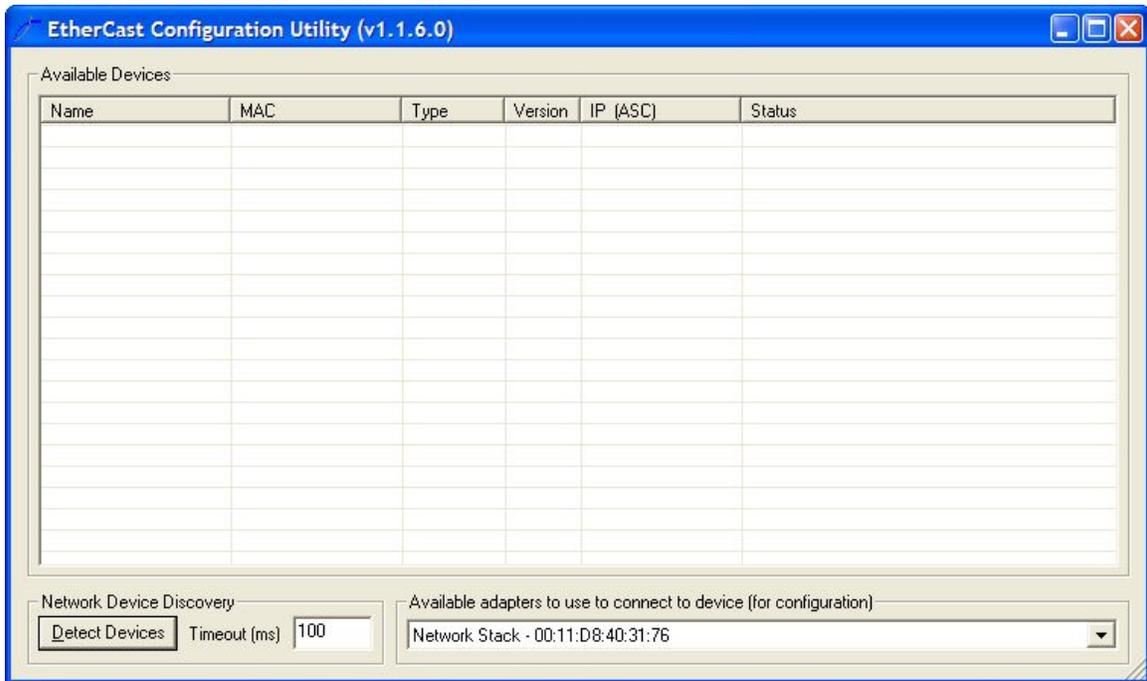

Figure 1: Main Dialog Controls Panel with No Engines or Default Values
- 2) The Main Dialog Controls panel (Figure 1) of the ETHERCAST Configuration Utility will come up on your screen. Note that there are no default values and no available engines.